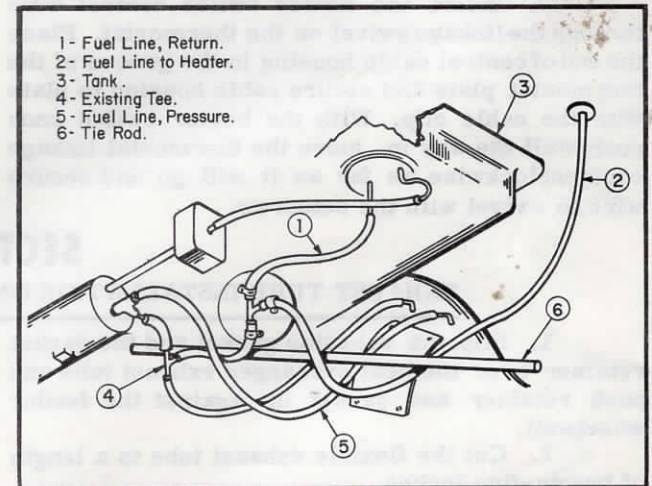

Figure 25B - Fuel Connection and "F" and install the split grommets.
1. Remove the flexible fuel line between fuel tank and fuel line leading to engine, on all cars except the 1600 beginning with 1968 model in which the fuel return line must be removed. (See Figure 25B). Provisions will have to be made to prevent gasoline draining from the tank when this is done. The rubber cap on the brake bleed screw can be used to cap the fitting at the bottom of the tank.